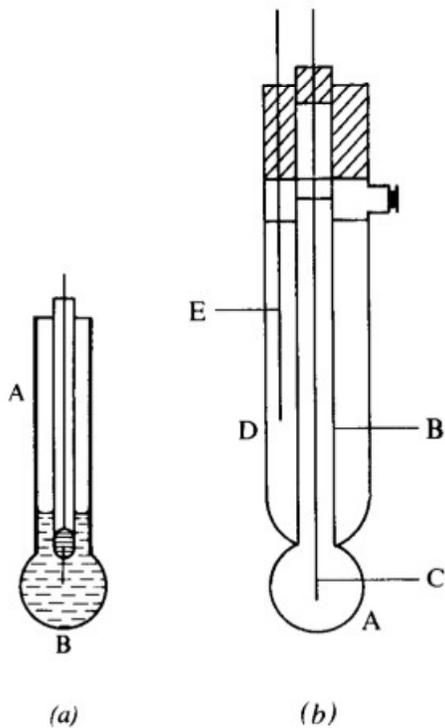

Fig. 4 (a) Glass Electrode
- The basic arrangement of a glass electrode is shown in Fig. 4 (a); the bulb B is immersed in the solution of which it is required to measure the hydrogen ion concentration, and the electrical circuit is completed by filling the bulb with a solution of hydrochloric acid (usually 0.1 M), and inserting a silver-silver chloride electrode.
- Glass electrodes are now available as combination electrodes which contain the indicator electrode (a thin glass bulb) and a reference electrode (silver-silver chloride) combined in a single unit as depicted in Fig. 4 (b).